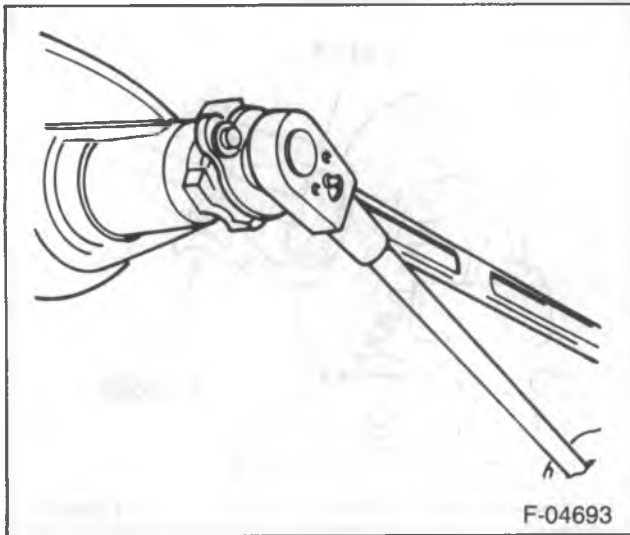

Figure 5—Removing the Drive Pinion Nut
- 14. Pinion flange nut (35) and washer (36) using J 8614-01 to hold the pinion flange (figure 5).